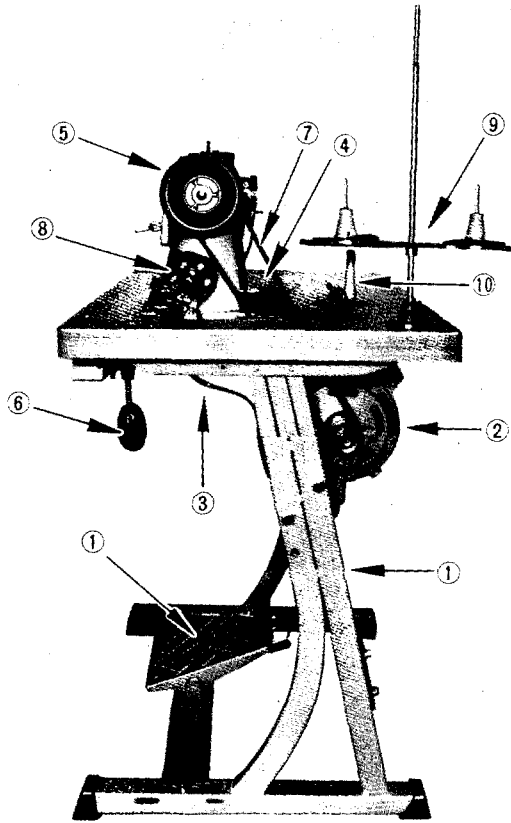

Fig. 1
### SETTING UP THE MACHINE (Fig. 1)
1. Push a bobbin on the bobbin winder spindle ③ as far as it will go.
2. Pass the thread from the thread stand downward through the eye ① in the tension bracket, then between and around the back of the tension disc ②.
4. Push the lever ④ toward the other side so that the pulley and V belt (⑦, Fig. 1) will engage and then start the machine.